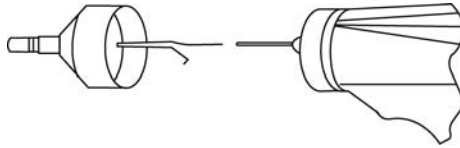

Figure 3: Probe wire removal.
1. Carefully remove this wire from the metal tube (Figure 3). This will pull any cerumen out of the metal tube.